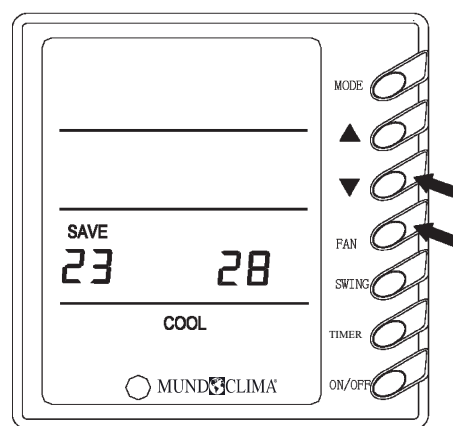

Fig.4
7) Energy Saving Setting (Fig.4)
If there is a malfunction during the operation of the system, “ERROR” will display on the panel and a malfunction code will be showed. It means evaporator sensor malfunction is Fig.4.